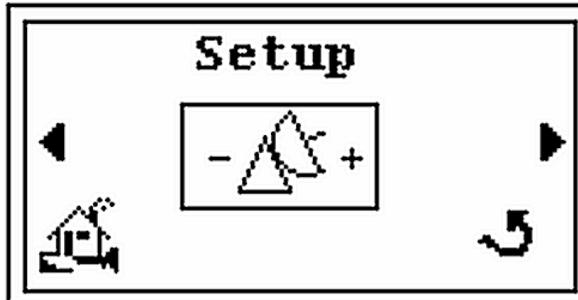

Figure 2-28 Setup Screen
3. Press the  and the *Setup* screen appears (Figure 2-28).